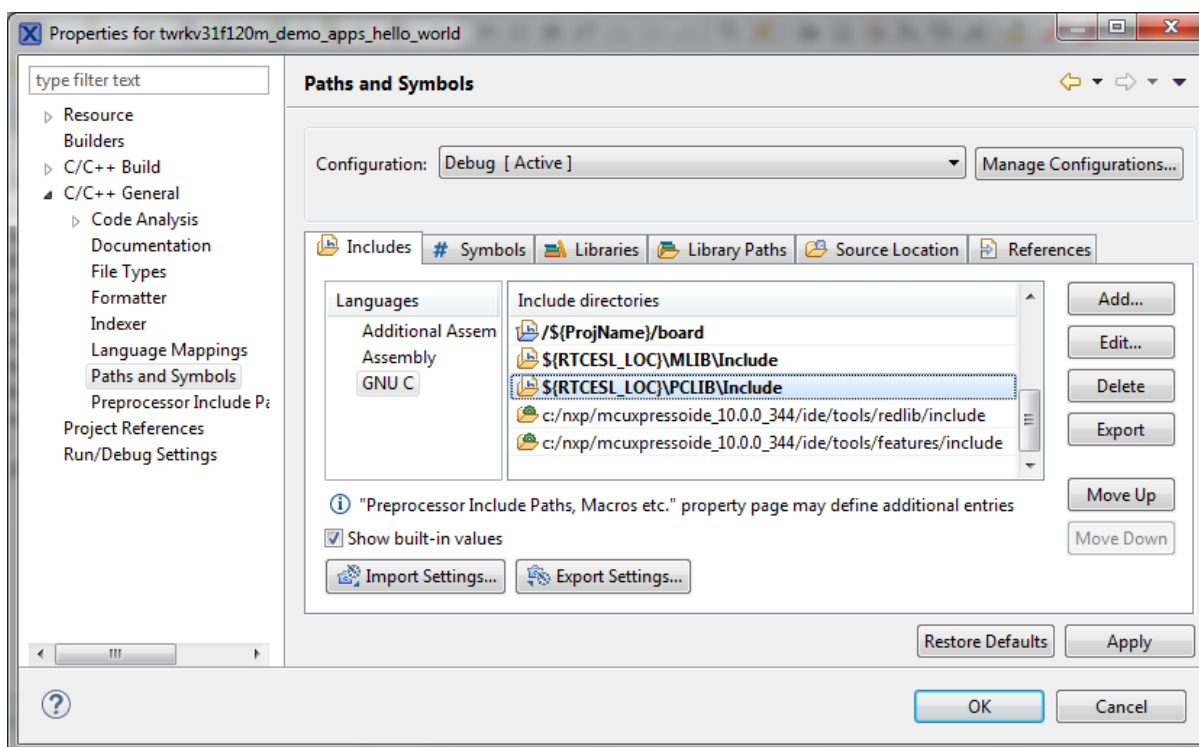

Figure 1-11. Compiler setting
15. In the right-hand dialog, select the Includes tab, and click GNU C in the Languages list. See Figure 1-11.
20. Click OK, and you will see the added in the list. See Figure 1-11. Click OK.